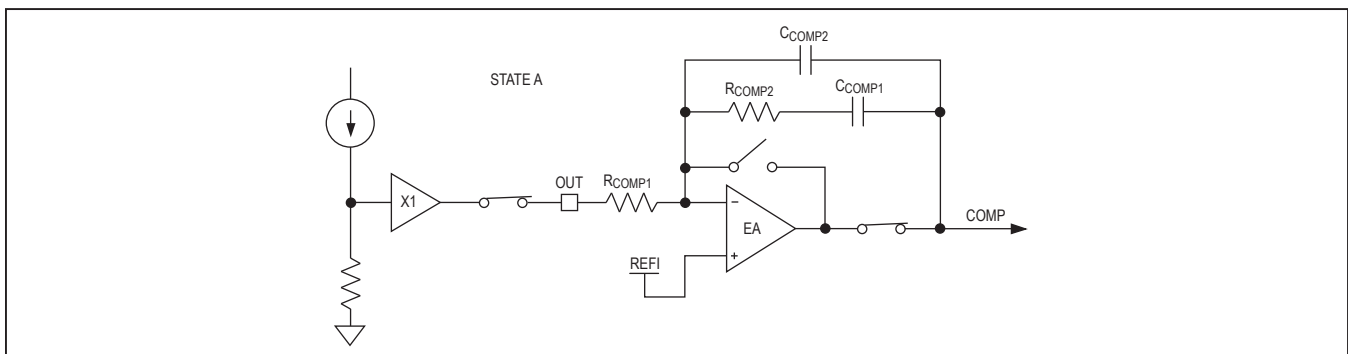
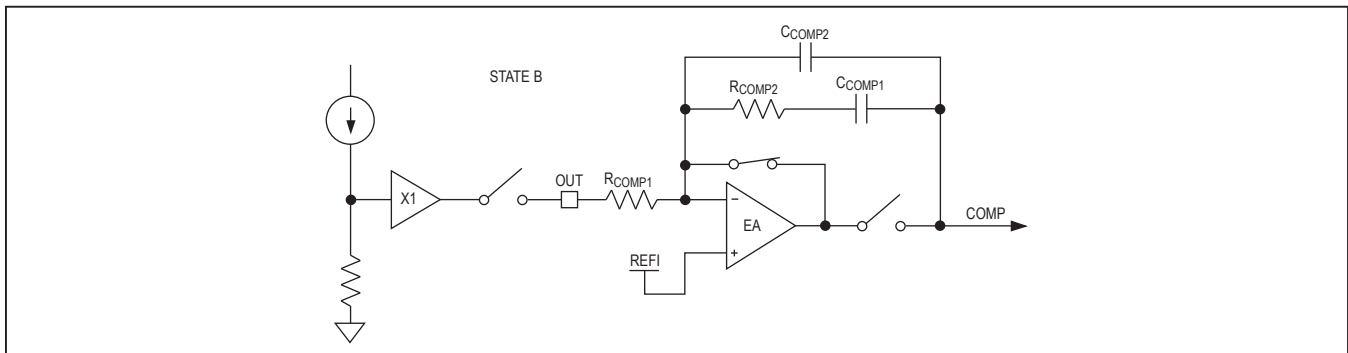
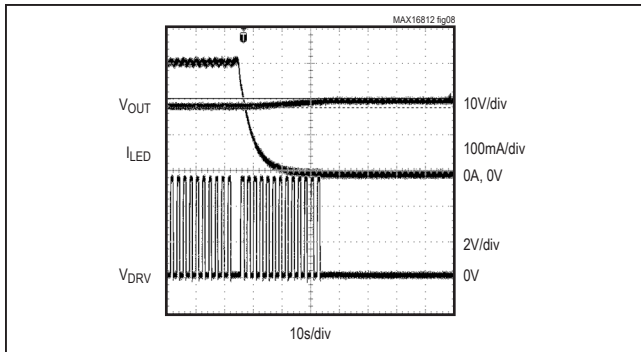

Figure 4. Internal Error Amplifier Connection (Dimming Signal High)
Figure 5. Internal Error Amplifier Connections (Dimming Signal Low)
Figure 8. LED Current, Output Voltage, and DRV Waveforms when DIM Signal Goes Low
The MAX16812 includes a built-in voltage-error amplifier, which can be used to close the feedback loop. The internal LED current-sense output signal is buffered internally and then connected to CS\_OUT through an internal switch. CS\_OUT is connected to the inverting input (FB) pin of the error amplifier through a resistor. See Figures 4 and 5. The reference voltage for the output current is connected to REF1, the noninverting input of the error amplifier. When the internal dimming signal
is low, COMP is disconnected from the output of the error amplifier and CS\_OUT is simultaneously disconnected from the buffered LED current-sense output signal (Figure 5). When the internal dimming signal is high, the output of the op amp is connected to COMP and CS\_OUT is connected to the buffered LED current-sense signal at the same time (Figure 4). This enables the compensation capacitor to hold the charge when the DIM signal has turned off the internal switching MOSFET gate drive. To maintain the charge on the compensation capacitors CCOMP1 and CCOMP2, the capacitors should be of the low-leakage ceramic type.
PWM dimming can also be achieved by connecting TGRM to a DC voltage less than  $V_{REF}$  and applying the PWM signal at DIM. The moment the internal dimming signal goes low, gate drive DRV to the internal switching MOSFET is turned off. The error amplifier goes to state B (see the *Internal Error Amplifier* section and Figures 4 and 5). The peak current in the inductor prior to disabling DRV is  $I_{LX}$ . Gate drive DGT to the external dimming MOSFET is held high. Then after a switchover period, gate voltage  $V_{DGT}$  on the external dimming MOSFET is linearly controlled to reduce the LED current to 0. The fall time of the LED current is controlled by an internal timing circuit to  $5\mu s$  for the MAX16812. During this period, the gate (DRV) to the internal switching MOSFET is enabled. After the fall time, the gate drive to the external dimming MOSFET is turned off and the gate drive to the internal switching MOSFET is still held high after the switchover period. The peak current in the inductor is controlled at  $I_{LX}$ . Then after a time period of  $20\mu s$ , the gate drive is disabled. The scope shots in Figures 8–11 show the dimming waveforms.
When the DIM signal goes high, the LED current is gradually increased to the programmed value. The rise time of the LED current is controlled to  $5\mu\text{s}$  for the MAX16812 by controlling the voltage on DGT. After the rise time, an internal sensing circuit monitors the voltage across the drain to the source of the external dimming MOSFET. The LED current is now controlled at the programmed value by a linear current regulating circuit. Once the voltage across the drain to source of the dimming MOSFET drops below 0.5V, the reference for the linear current regulating circuit is increased to 1.1 times the programmed value. The gate drive (DRV) to the internal switching MOSFET is enabled and the error amplifier is returned to state A (see the *Internal Error Amplifier* section and Figures 4 and 5).